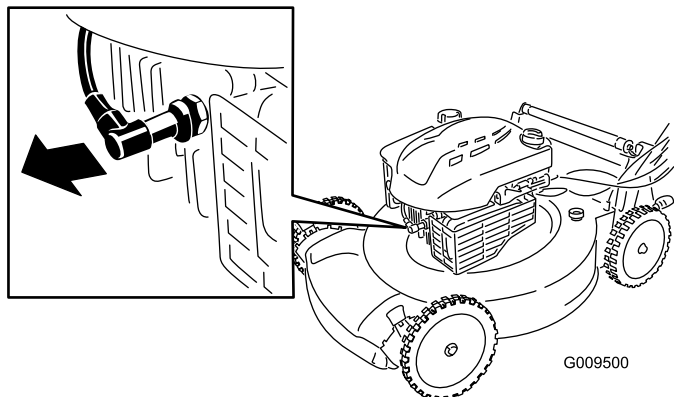

Figure 14
2. Disconnect the spark plug wire from the spark plug (Figure 14) before performing any maintenance procedure.